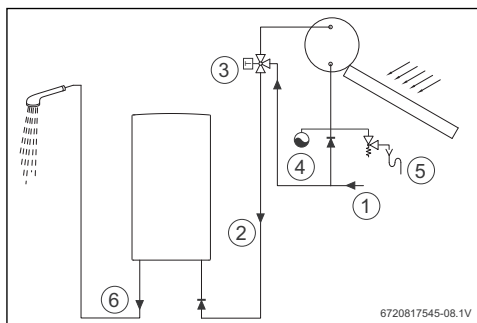

Fig. 4 Thermal solar system
- ▶ In the case of a thermal solar system, (see Fig. 4), ensure that the installation has an expansion vessel or valve.